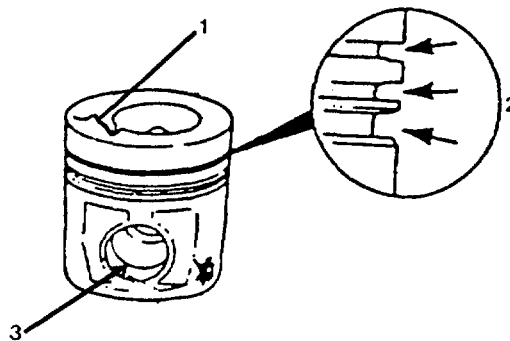

FIGURE 4-35. Inspecting Pistons.
- a. Inspect pistons for damage and excessive wear. Check the top (1, FIGURE 4-35), ring grooves (2), skirt (3) and pin bore (4).